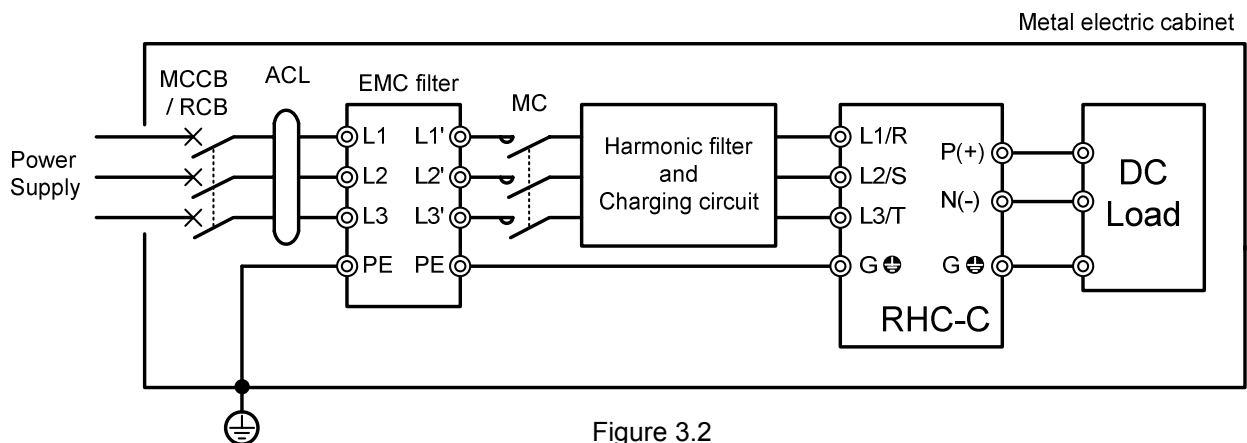

Figure 3.2
- 6) If radiated noise from the inverter exceeds the permissible level, enclose the converter and its peripherals within a metal panel as shown in Figure 3.2.